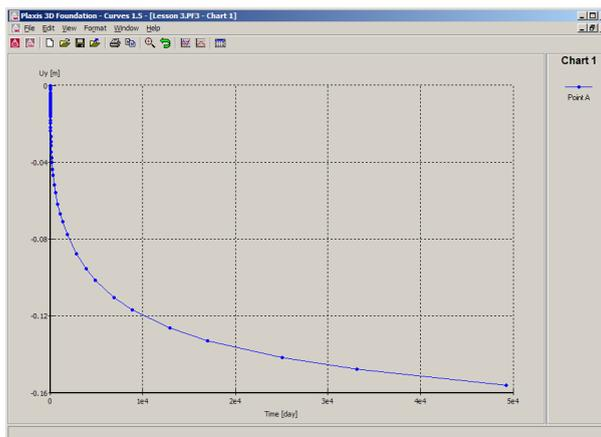

Figure 5.9 Time - displacement curve over calculation phases
- Click <OK> to generate the graph (Figure 5.9).